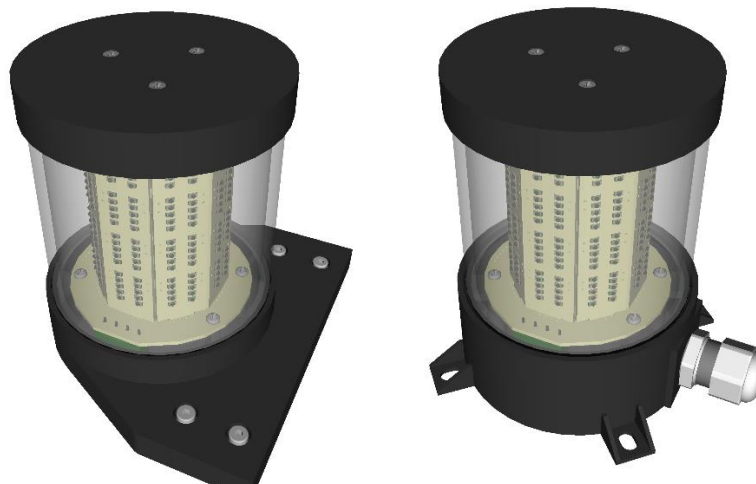

Figure 4 Top flashing and acoustic horn driver in column mount and standalone version
1. Triangle shape signal lamp. Basic information unit. Design to mount on column frame or on any flat surface with access from back i.e. electric cabin. Signal lamp comes with graphic on glass. Graphic can be chose from any shape form Figure 4.